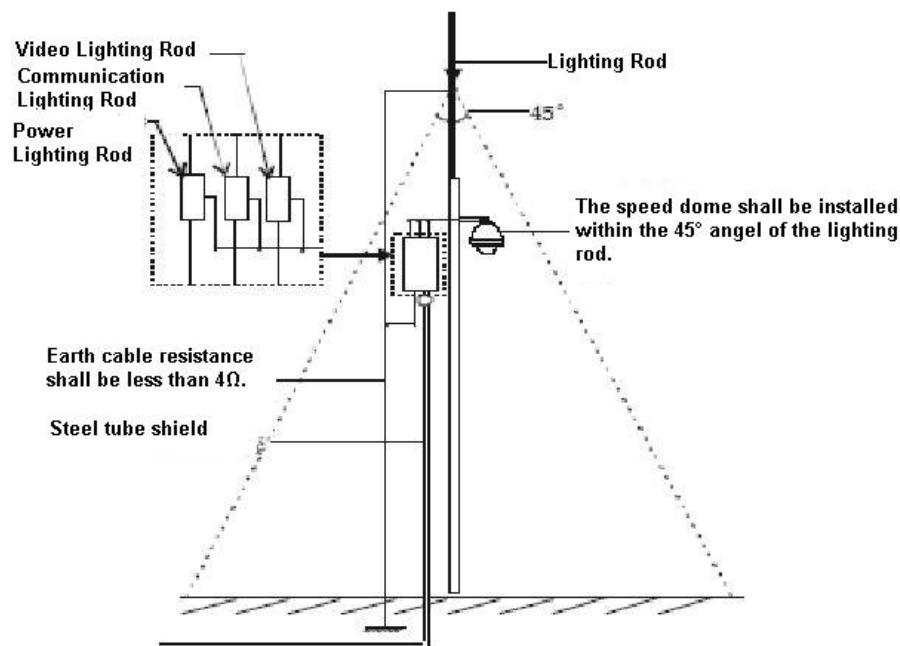

Figure 6-1
- System shall adopt equal-potential wiring. The earth device shall meet anti-jamming and at the same time conforms to your local electrical safety code. The earth device shall not short circuit to N (neutral) line of high voltage power grid or mixed with other wires. When connect the system to the earth alone, the earth resistance shall not be more than 4Ω and earth cable cross-sectional area shall below 25 mm^2 . See Figure 6-1.